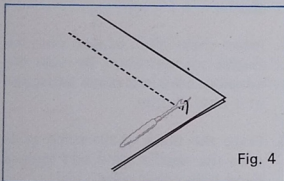
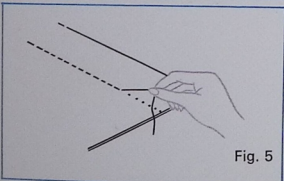

Fig. 4
Fig. 5
1. To remove the stitching quickly, the thread from last stitch must be on top. Simply pull the thread and all the stitching unravels. (Fig. 4, Fig. 5)